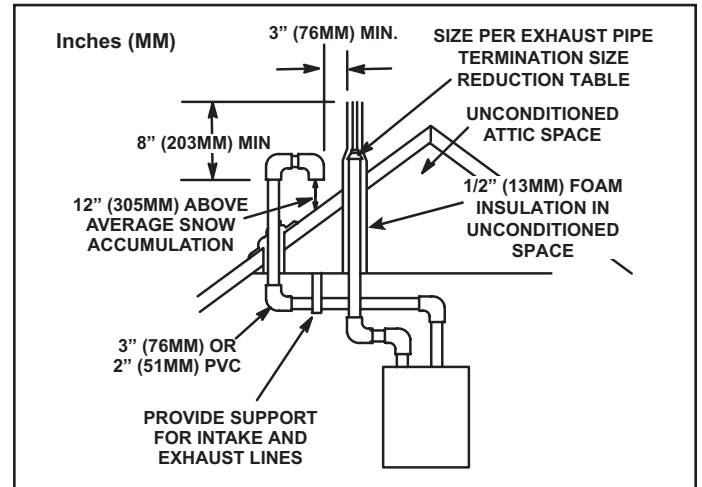

Figure 31. Direct Vent Roof Termination Kit 15F75 or 44J41
Intake and exhaust pipes may be routed either horizontally through an outside wall or vertically through the roof. In attic or closet installations, vertical termination through the roof is preferred. Figure 31 through Figure 38 show typical terminations.
3. On roof terminations, the intake piping should terminate straight down using two 90° elbows (see Figure 31).